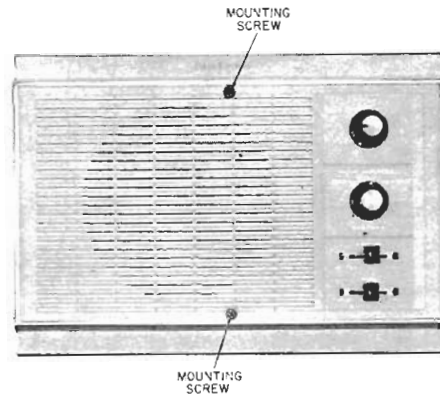

Fig. 8. Model 2570 inside remote speaker station.
1. Model 2570—5 inch speaker (Fig. 8).
### Installing Model 2570 Remote Speaker Station (Figs. 8 and 9).